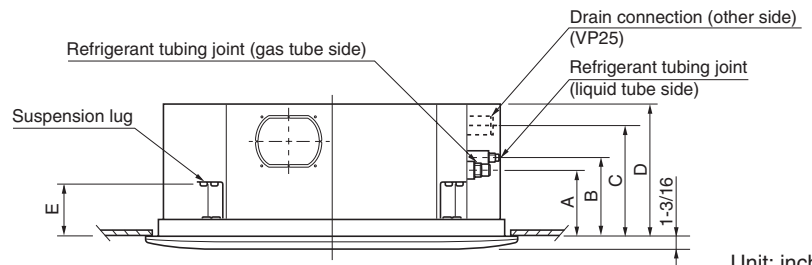

Fig. 1-48
- (3) Determine the pitch of the suspension bolts using the supplied full-scale installation diagram. The diagram and table (Fig. 1-48 and Table 1-9) show the relationship between the positions of the suspension fitting, the unit, and the panel.